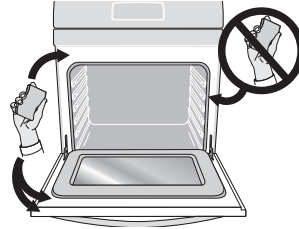

Figure 24: Clean around the oven door gasket
9. Wipe oven cavity and bottom. Do not clean oven door gasket (Figure 24). Avoid leaning or resting on the oven door glass while cleaning cavity.